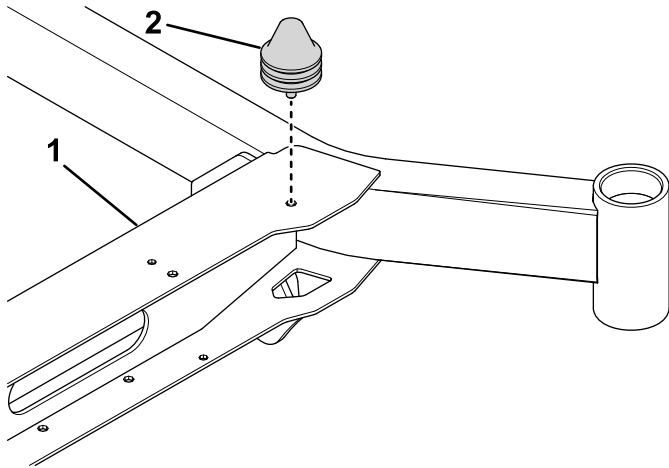

Figure 1
2. Remove the bumper from the cross member as shown in Figure 1.